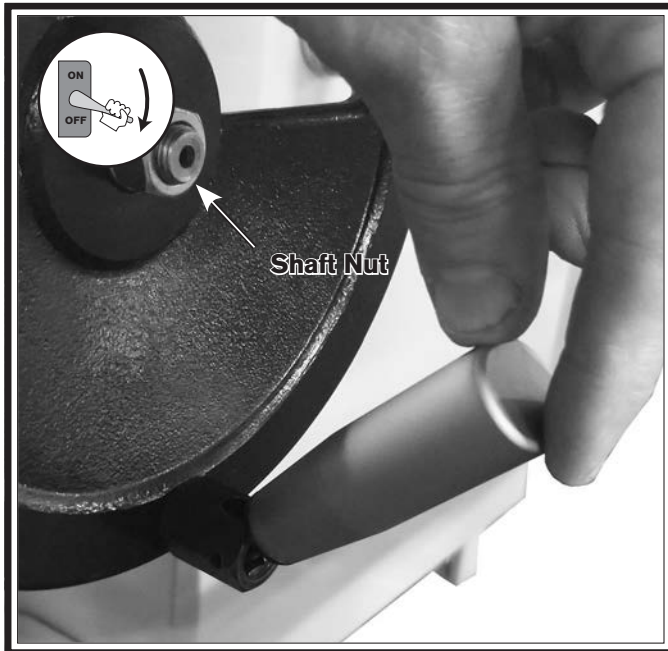

Figure 54. Y-axis handwheel assembly.
3. While holding handwheel locked with shaft, remove shaft nut shown in **Figure 54**.